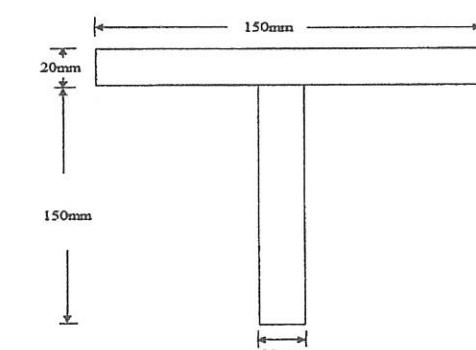

Figure B1 / Rajah B1
- (c) A simply supported beam with a symmetrical T-section as shown in Figure B1 is subjected to a uniformly distributed load. The bending moment maximum, M_{max} is given as 40×10^3 kNm.